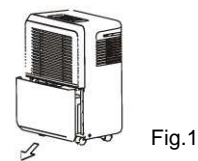

Fig.1
- Hold the left and right handles securely and slowly pull bucket straight outwards. (Fig.1) Do not put down the bucket - the bottom is uneven and will tip over, causing water to spill.